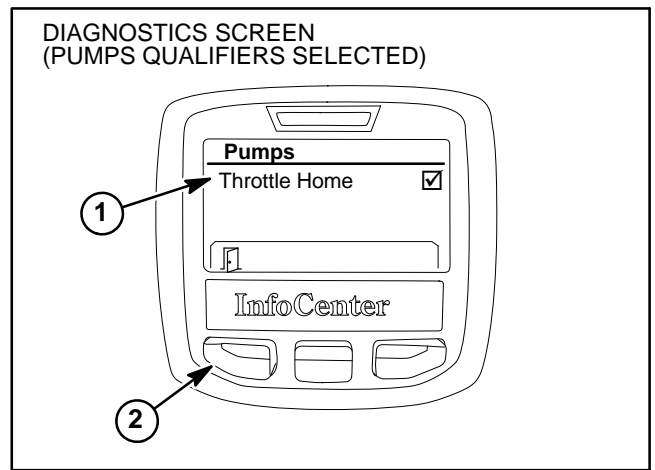

Figure 26
7. Manually operate each qualifier listed (Fig. 26). The qualifier condition on the InfoCenter display should alternate and as the qualifiers condition is changed. If and do not alternate during qualifier operation, the qualifier component or its circuit wiring is faulty and should be tested (see Component Testing in this chapter).